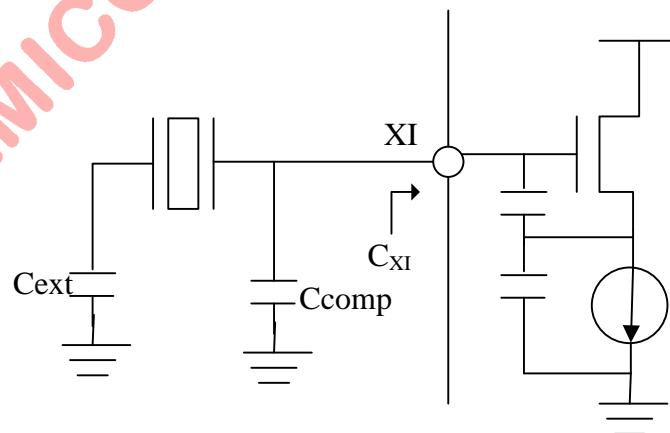

Fig 9.5.1
- 1) The stable time depends on the parallel capacitor (Ccomp) connected to XI, as shown in Fig 9.5.1. The time shown above assumes no parallel capacitor. For a 10pF capacitor, the stable time will be lengthened to 4ms typically.